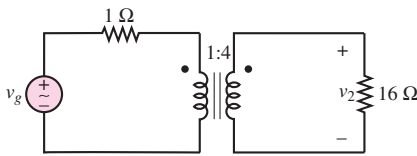

Figure P7.33
**7.33** For the circuit shown in Figure P7.33, assume that  $v_g = 120$  V rms. Find
**7.34** With reference to Problem 7.33 and Figure P7.33 find